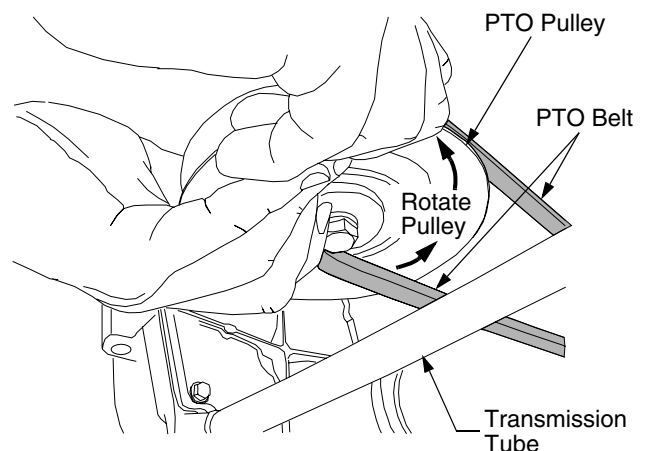

Figure 30
- Pull the right side of the belt rearward and place the narrow V side of the belt into the right/front side of PTO pulley. See Figure 30.
- While holding the belt and pulley together, rotate the pulley to the left (See Figure 30). Continue holding and rotating the pulley and belt until the belt is fully rolled into the PTO pulley. **NOTE:** If using the left side of the belt, turn the pulley to the right.